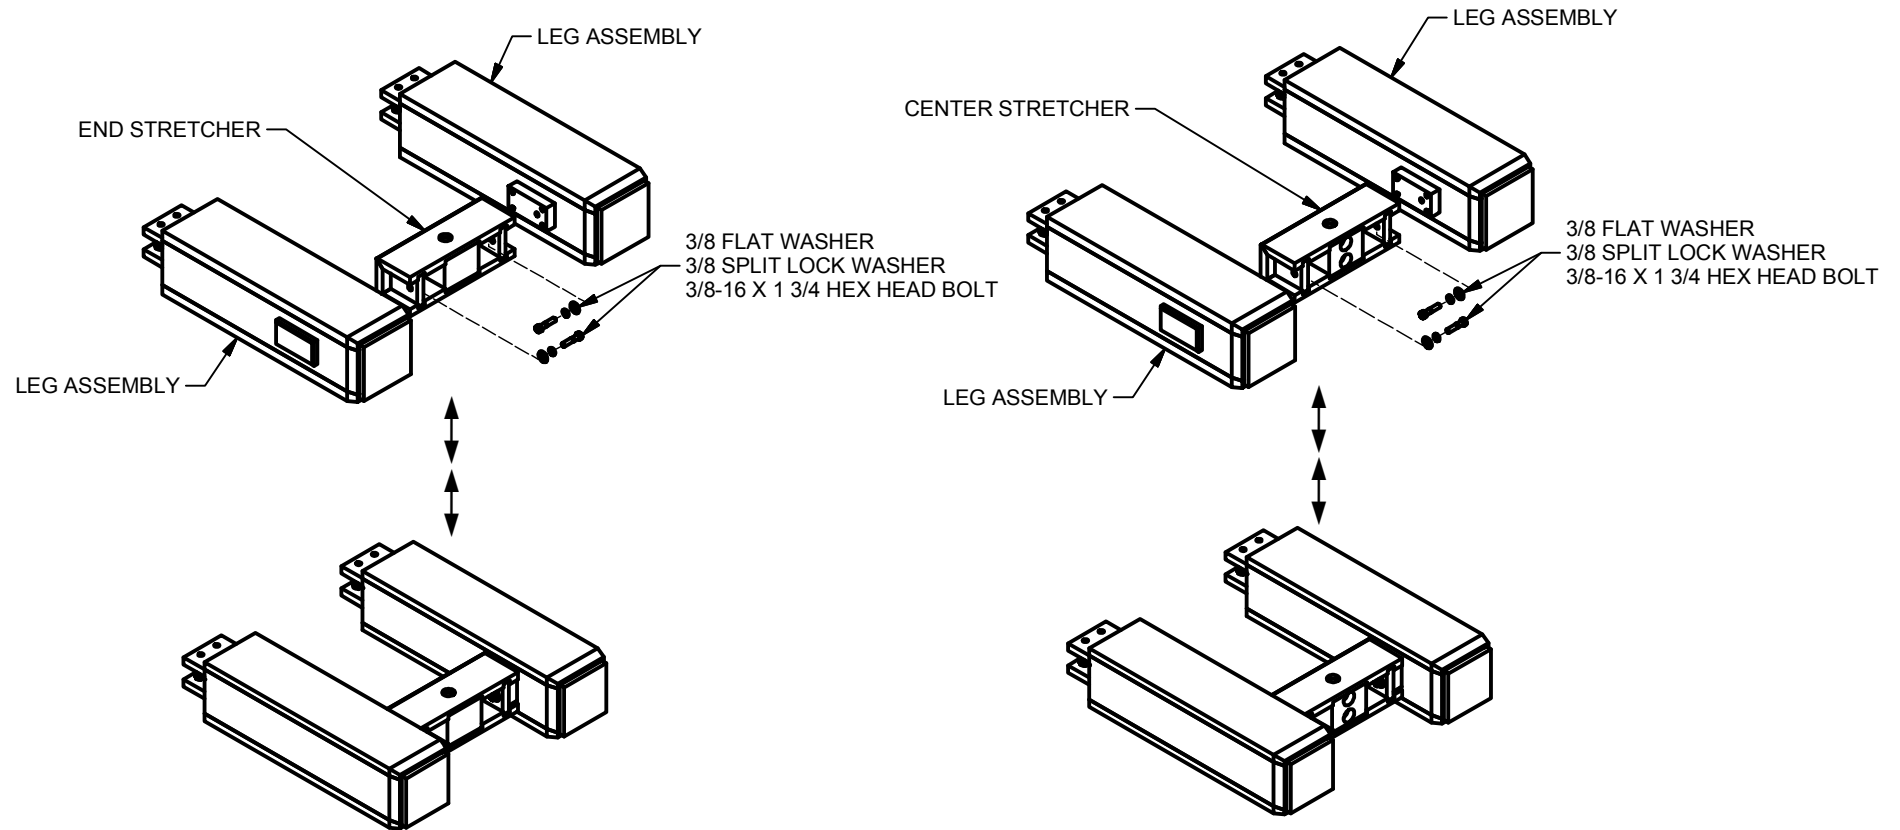

FIGURE 1
Step 1: Assemble (2)legs and (1)short end stretcher using (2)3/8-16 x 1 3/4 hex head bolt, (2) 3/8 flat washer, and (2)3/8 split lock washer as shown in FIGURE 1.(END ASSEMBLY)